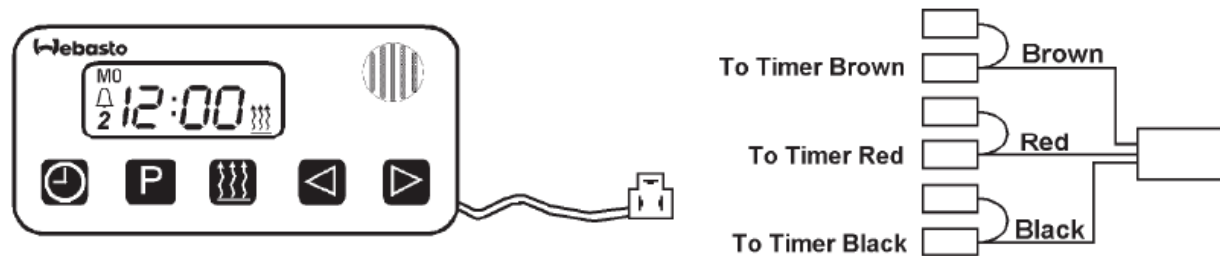
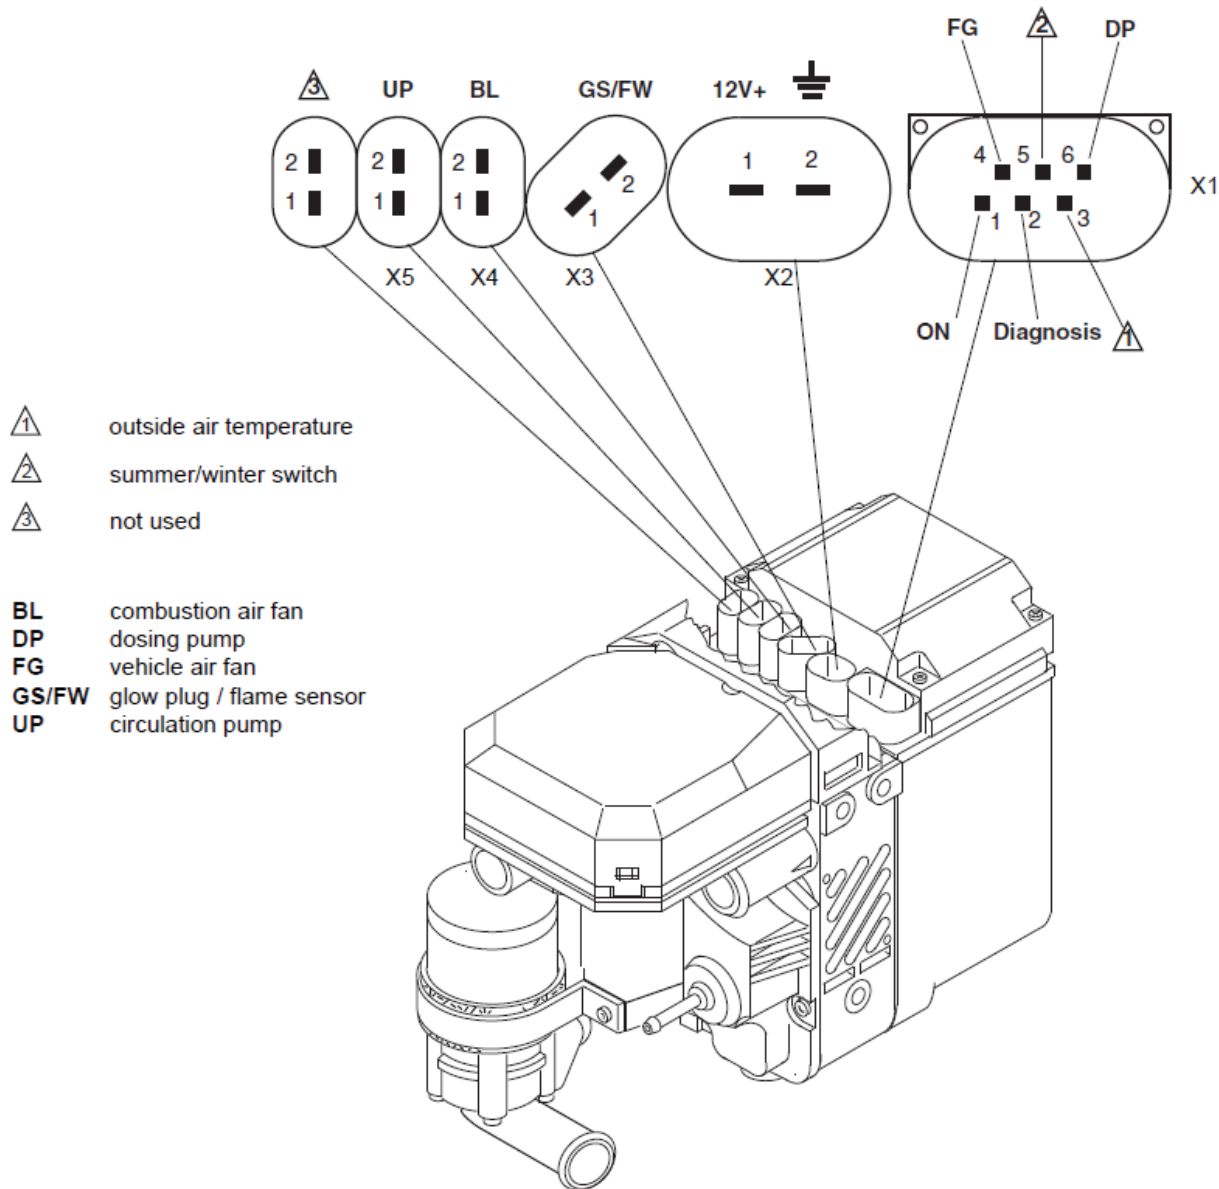

Fig. 409: Optional 7-Day Digital Timer
Fig. 411 Control Unit Connector Pin Assignment (Thermo Top C)
6. Connect the terminals of the harness to the timer. See figure 409 below and wiring diagram figure 411 for reference.
The connector pin assignment of control unit for Thermo Top C is shown in fig. 411.
The circuit diagrams (fig. 411 and 412 show the electrical circuit of the heater in the combination with a timer.